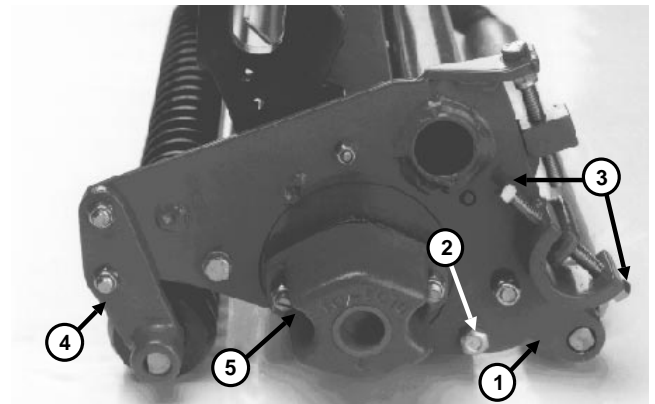

Figure 27
- A. Remove locknuts securing front roller brackets to side plates at both ends of cutting unit (Fig. 27).